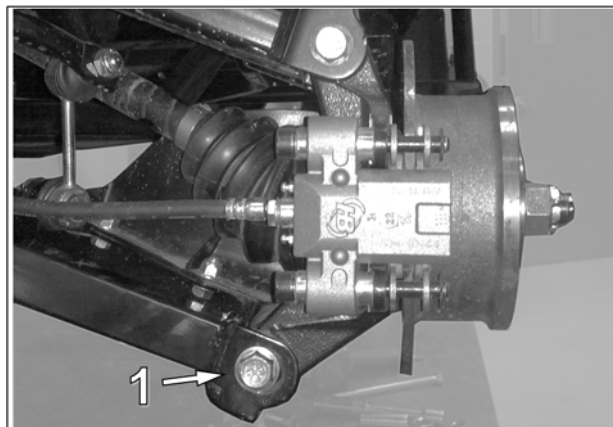

Fig. 3
4. Remove bolt (1) that links lower suspension arm to wheel knuckle. See Fig. 3